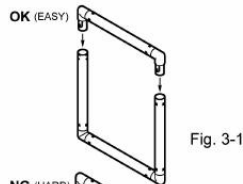

Fig. 3-1
(2) Finish the assembly of both connectors with the tube in between. Then insert the connectors into two separate tubes to complete a panel. (Fig. 3-1)
(3) Put release pliers into holes that have safety lock pins coming through and squeeze the pliers to release the tube from the connector.